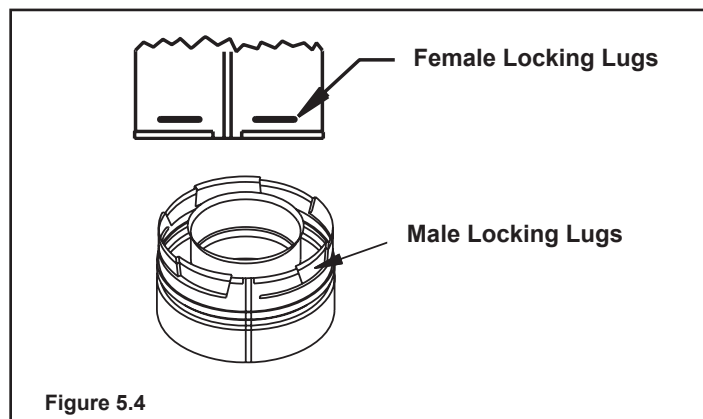

Figure 5.4
**Note:** Direct vent pipe is designed to slide straight onto the male ends of adjacent pipes and fittings by orienting the pipe indentations so they match and slide into the entry slots on the male ends, see **Figure 5.4**. Push the pipe sections completely together, then twist-lock one section clockwise approximately one-quarter turn, until the two sections are fully locked. The female locking lugs may not be visible from the outside, on the pipe or fittings. They may be located by examining the inside of the female ends.